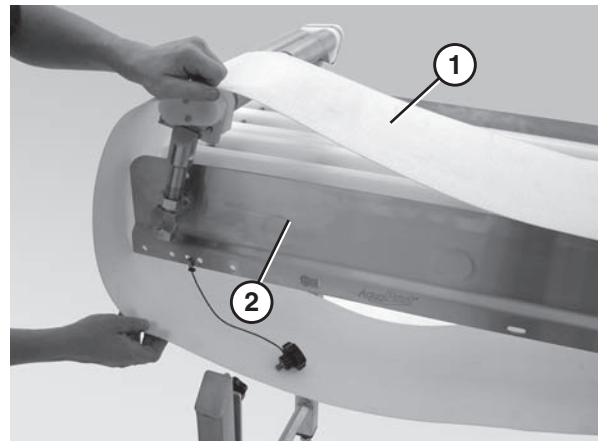

Figure 48
7. Slide the old belt (Figure 48, item 1) off the conveyor frame (Figure 48, item 2).